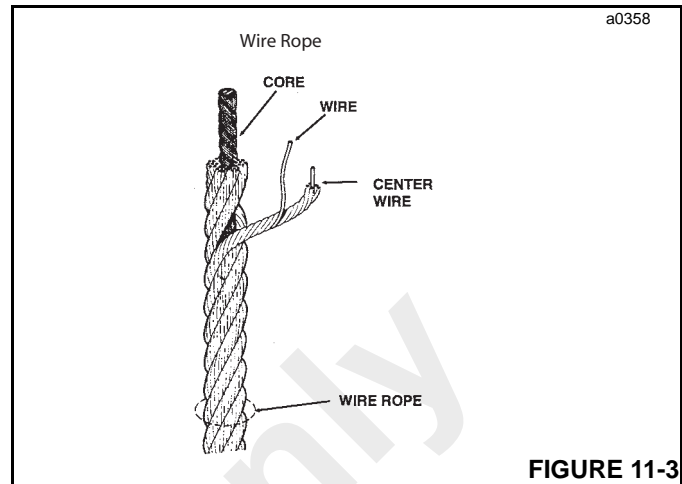

FIGURE 11-3
Every wire rope has three basic components (Figure 11-3): (1) The wires which form the strands and collectively provide rope strength; (2) the strands, which are laid helical around the core, and (3) the core, which forms a foundation for the strands. The core used in the crane wire rope is an Independent Wire Rope Core (IWRC), which is actually a smaller rope, or a strand similar to the outer strands of the rope. The IWRC core adds about 7.5% to the nominal strength of the wire rope.